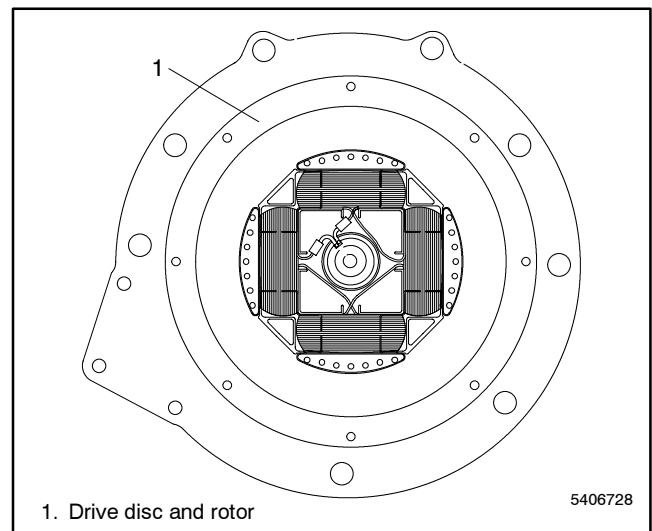

Figure 6-28 Drive Disc and Rotor
2. Position spacers on drive disc exactly as recorded during disassembly. Use eight nuts and spacers to reattach remaining drive disc and rotor to drive disc installed in previous step. See Figure 6-28. Torque mounting bolts to 7.9 Nm (70 in. lb.).